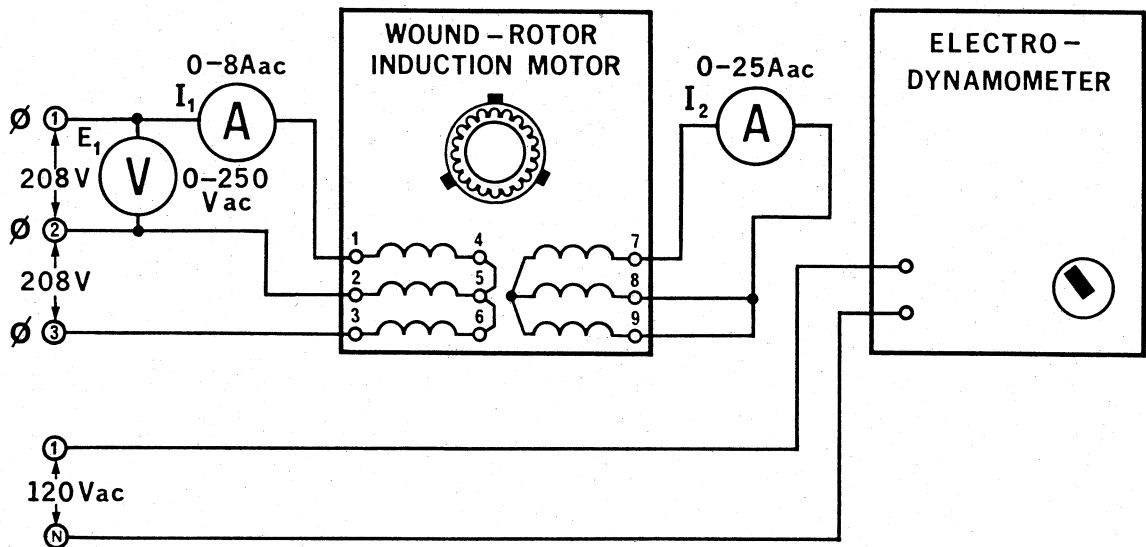

Figure 4-2.
5. a. Connect the circuit shown in Figure 4-2. Note that the fixed 3 ϕ output of the power supply, terminals 1, 2 and 3 are now being used.